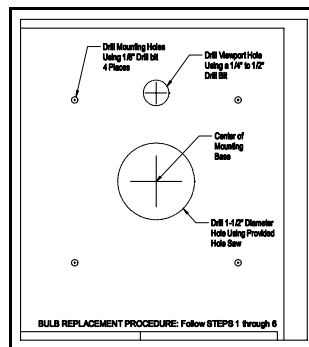

Figure 3
3. Drill 1/8" diameter mounting holes at positions indicated on template. (Refer to supplied template as shown in Figure 3)
4. Cut out the large opening on the template using a drill and the provided hole saw. (Refer to template as shown in Figure 3)
5. Using a 1/4" to 1/2" drill bit, drill view port hole as shown in Figure 3)
6. Mount the Air+Health™ mounting base onto the plenum with the supplied sheet metal screws. (Refer to template as shown in Figure 3) **This must be tight in order to activate the built in safety switch.**
shown in Figure 3)
indicated on template. (Figure 3)